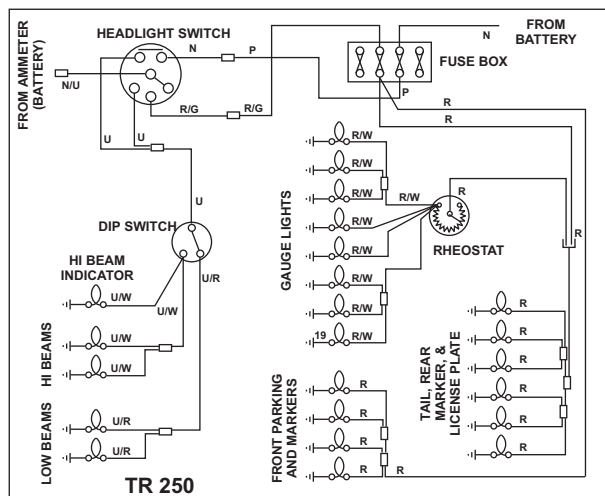
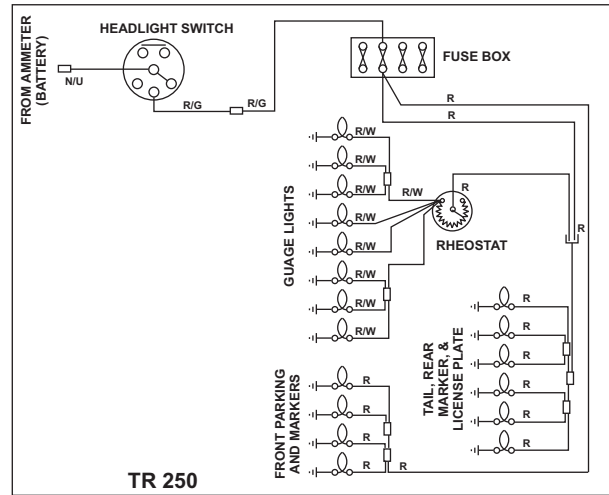

FIGURE 1
FIGURE 10
From the TR250 through the '72 TR6, Triumph used a steering column mounted headlight switch, incorporating a "flash to pass" feature, and the high/low selector switch was mounted on the floor. For '73 -'76, the headlight switch was changed to a rocker switch on the dashboard, and the steering column switch was changed to include the high-beam/low-beam selector switch and the "flash to pass" feature. Disregarding these differences, the circuits for all model years are pretty much the same, only the details of the wiring changing from one year to the next. The schematics are depicted in **Figures 1, 2, and 3** below.
For your convenience, I have redrawn **figures 1 through 4** as **figures 10 through 12**, below, showing only the
Step 4). Power from the “red” fuse goes directly to the front lamp assemblies, with no intervening connectors. The red wire goes first to a double bullet/sleeve connectors on the left side of the car, and then to the right side, and another double connector (refer to **figures 10, 11, and 12**, previous page, for details). If none of the front lights work, the most likely problem is the first connection, which will probably be bad. Check for voltage on the red wire from the fuse at this point. If you have power, continue testing on out to each individual lamp connection till you find the problem. If you don’t have power on this wire, there is a break in the wire somewhere between here and the fuse.
The red wire from the multi-pin connector goes to dimmer control for the gauge lights (refer to **figures 10, 11, and 12**, previous page, for details). Check for voltage on the red wire at the dimmer control. If you don’t have voltage on this wire, there is a break in the wire somewhere between here and the multi-pin connector.